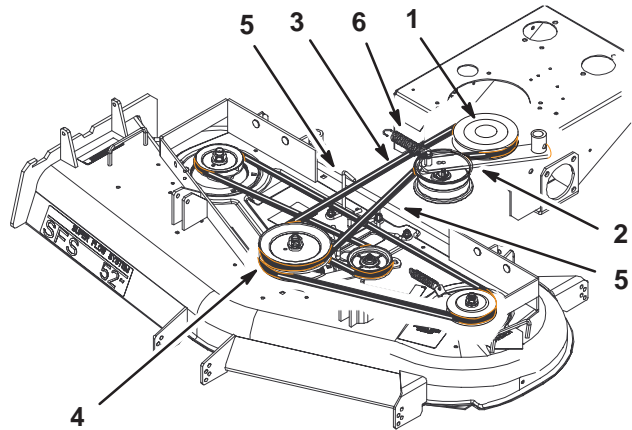

Figure 58
- Remove the idler spring from idler arm. Remove the drive belt from the PTO engagement pulley and the center spindle pulley (Fig. 58).
- Remove the worn drive belt (Fig. 58).
- Install the new drive belt onto the PTO engagement pulley and the top groove of the center spindle pulley (Fig. 58).
- Install belt onto idler pulley and then install idler spring (Fig. 58).
- Adjust PTO drive belt guides an 1/8 in. from belt (Fig. 58).